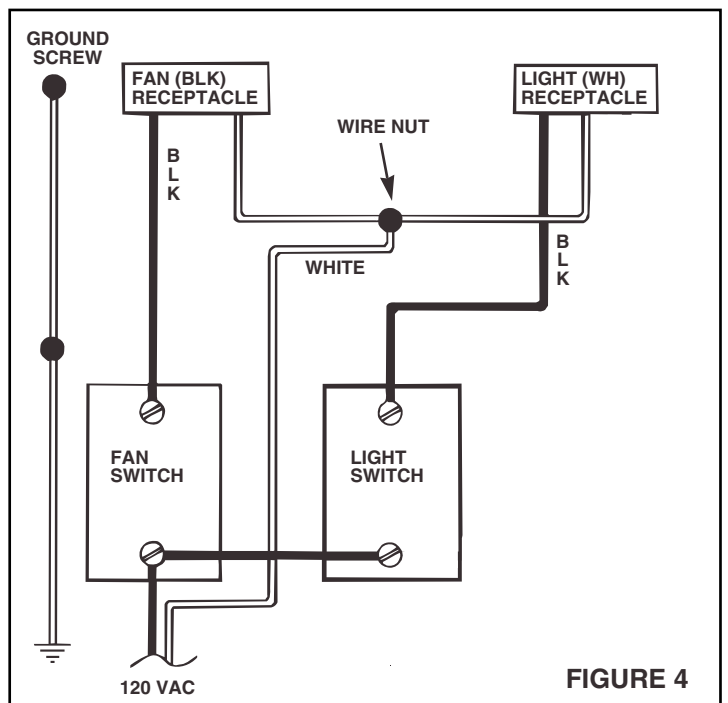

FIGURE 4
4. Refer to Figure 4. Connect white wires from the fan and light receptacles to white (neutral) wire from the supply. Connect black wire from fan (BLK) receptacle to wire from fan switch. Connect black wire from light (WH) receptacle to wire from light switch.
Plan ducting wiring before proceeding with installation. **Refer to Figure 4 for wiring. CAUTION: Check area above planned location to be sure that:**